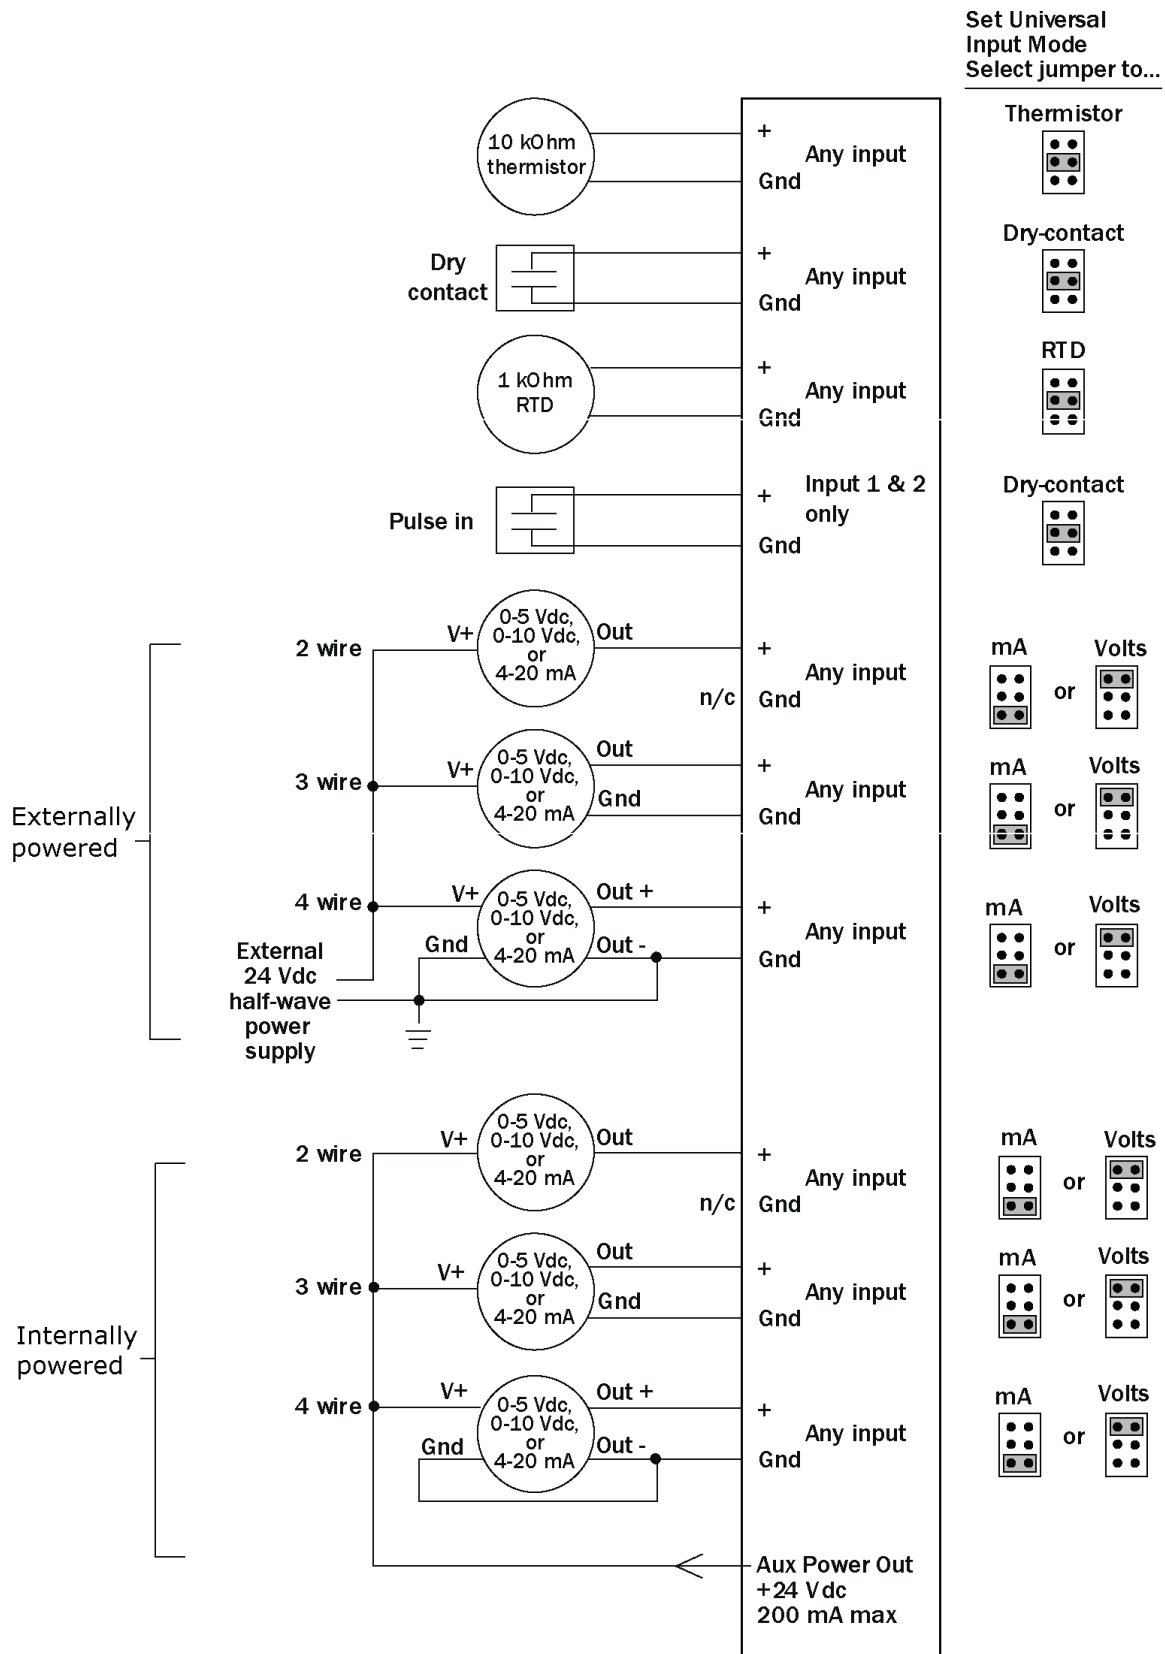

Fig. 24 — I/O Flex 6126 Controller Input Modes and Diagram
- Turn on the I/O Flex 6126 controller's power (Fig. 24).